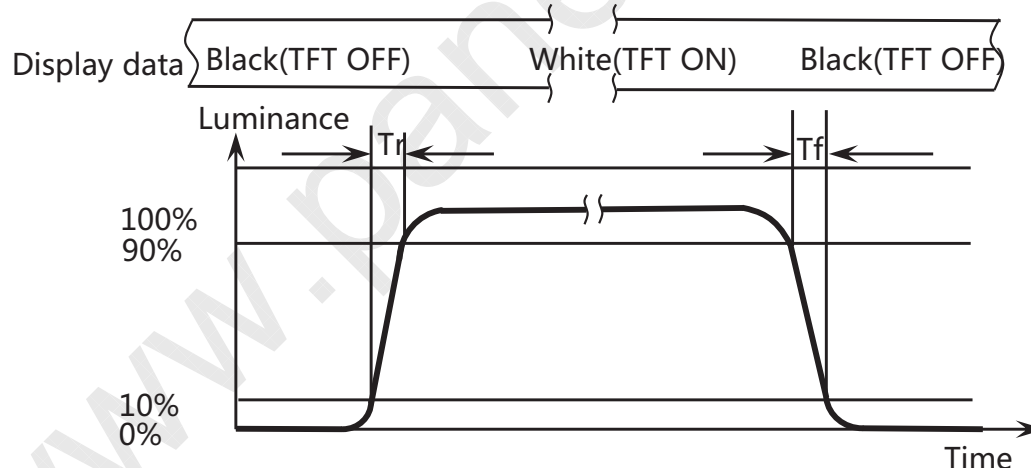

Figure 10. Response Time Testing
6. The electro-optical response time measurements shall be made as Figure 10 by switching the “data” input signal ON and OFF. The times needed for the luminance to change from 10% to 90% is T_r , and 90% to 10% is T_f .
The electro-optical response time measurements shall be made as shown in Figure 10 by switching the “data” input signal ON and OFF. Tr: The luminance to change from 10% to 90% ,Tf: The luminance to change from 90% to 10% .